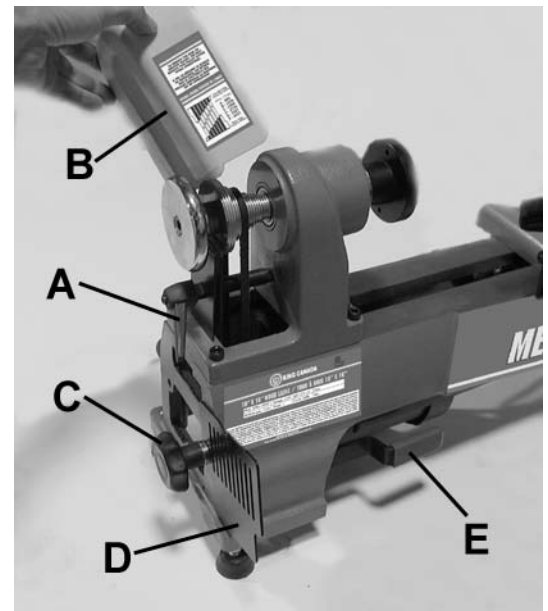

FIGURE 11
To change the spindle speed, loosen safety cover lock handle (A) Fig.11. This will allow you to lift and remove safety cover (B) to gain access to the pulleys and belt.